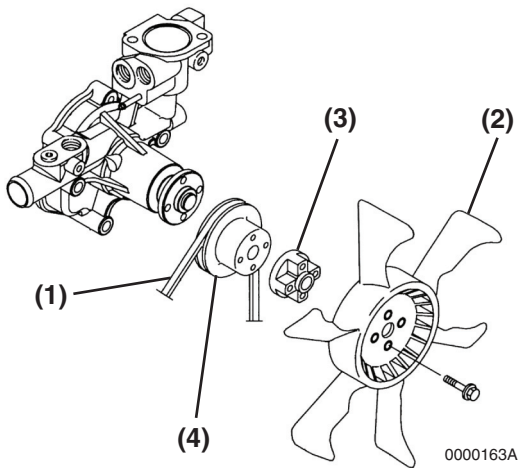

Figure 7-21
14. Reinstall the coolant pump V-pulley (**Figure 7-21, (4)**), spacer (**Figure 7-21, (3)**) (if equipped) and engine cooling fan (**Figure 7-21, (2)**).
15. Reinstall the cooling fan V-belt (**Figure 7-21, (1)**). Adjust as described in *Check and Adjust Cooling Fan V-Belt* on page 5-27.